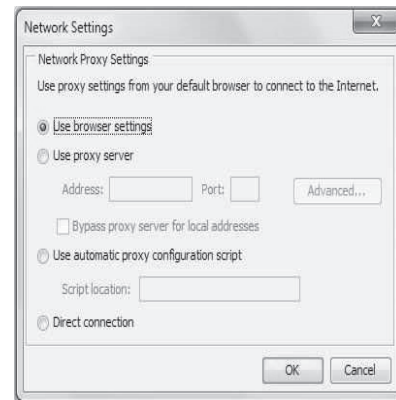

Fig. 75 — Network Settings
- **Network settings:** In the Java Control Panel, click Network Settings. Select a direct connection to bypass the proxy server or select the automatic configuration script. See Fig 75.